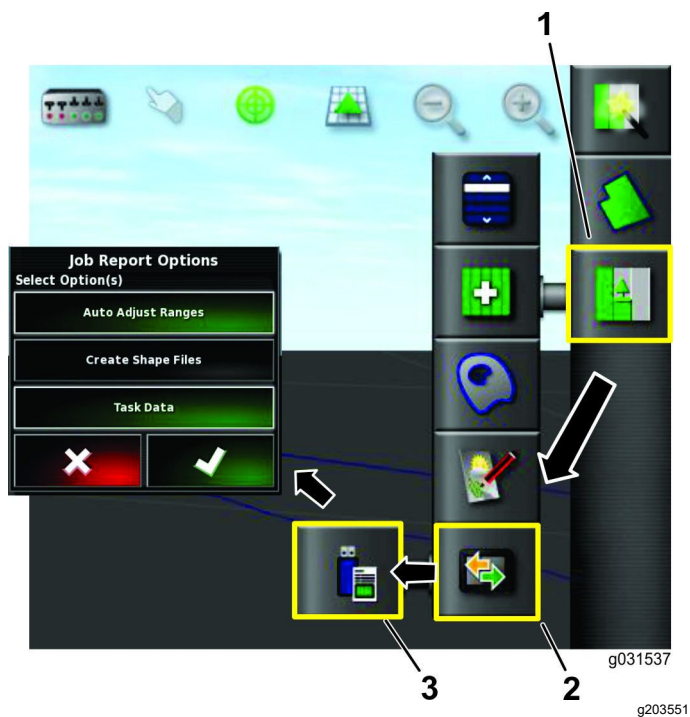

Figure 32
3. Press the job-menu icon (Figure 32).
4. Press the DATA EXCHANGE icon (Figure 32).
5. Press the EXPORT JOB REPORT TO USB icon (Figure 32).